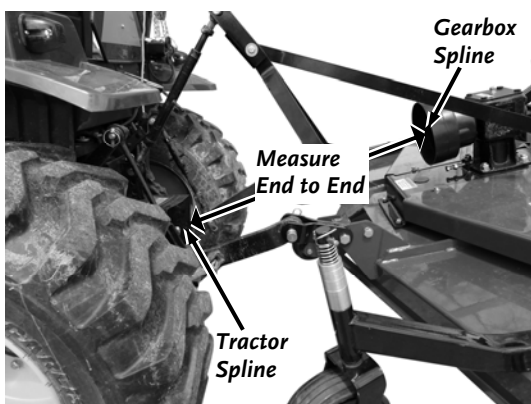

Figure 24
3. Raise the Mower up as far as it will go (**Figure 24**). Measure from the end of the Tractor Spline Shaft to the end of the Mower Gearbox Shaft and record this dimension in the "FULLY RAISED" row of the table above.